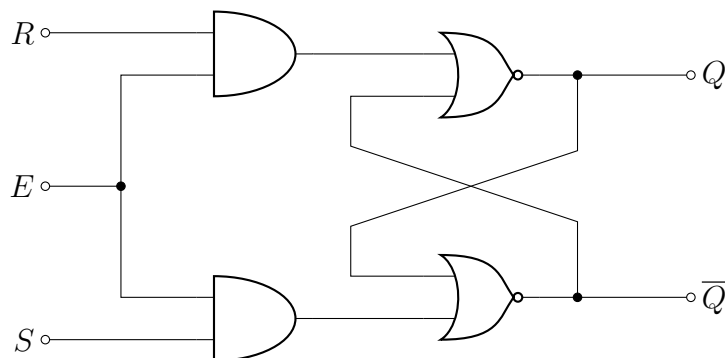

Figure 10: Gate-Level Diagram of a Clocked NAND-Gate SR Flip-flop
3. Another very useful implementation of NAND gates is the Debounced Switch or SR Latch. A Debounce Switch prevents pushbutton switching events from triggering more than On/Off occurrence in a circuit. Debouncing inputs is critical in many logic circuit applications. A Debounce Switch or SR Latch can be completely constructed using discrete NAND gate logic when wired as shown in Figure 10. You will not need to build a Debounced Switch or SR Latch but will need an understanding of these applications.